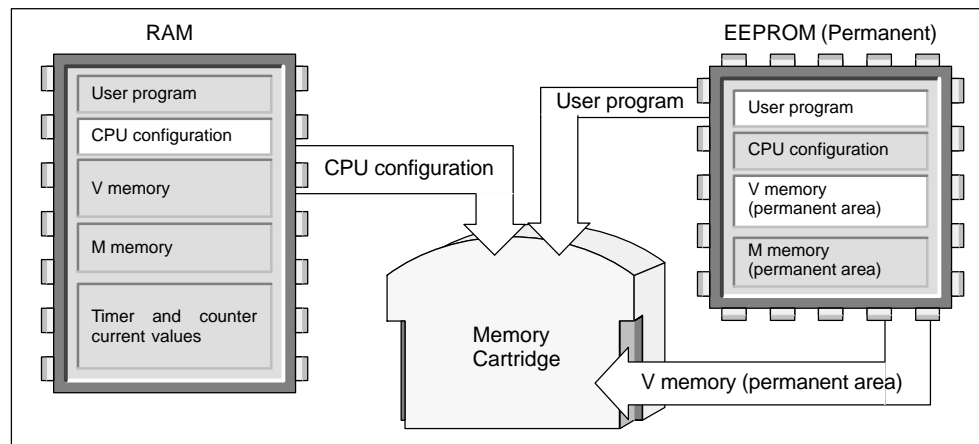

Figure 5-20 Copying the CPU Memory to the Memory Cartridge
3. Use the menu command **PLC > Program Memory Cartridge** to copy the program to the memory cartridge. Figure 5-20 shows the elements of the CPU memory that are stored on the memory cartridge.